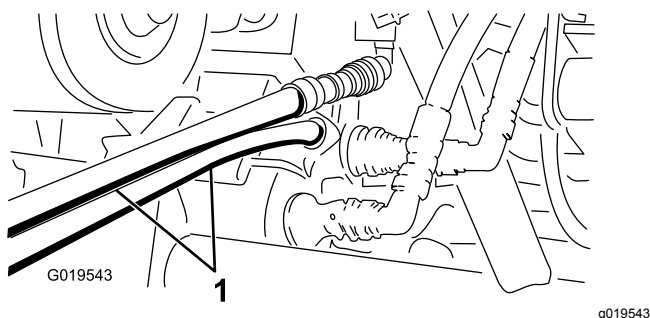

Figure 85
5. On the other machine, connect the 2 hoses to the coupler still in the coupler bracket (connect the top hose to the top coupler and the bottom hose to the bottom coupler) (Figure 85).